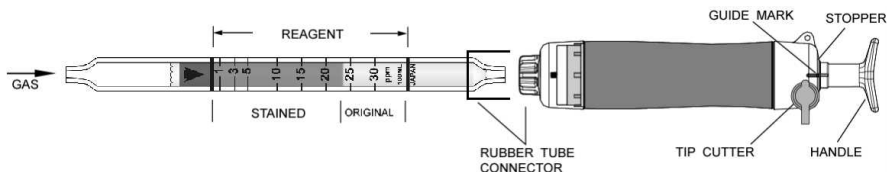

Fig.2
- ② Insert the detector tube into the aspirating pump securely as shown in Fig.2. (Arrow mark shall point to the pump.)
- ③ Align the guide marks on the shaft and stopper of the aspirating pump.
- ④ Pull the pump handle at a full stroke until it locks and wait for 1 minute or until the completion of sampling is confirmed with the flow indicator of the pump. (See descriptions about the flow indicator in the instruction manual of the pump.)
- ⑤ On completion of sampling, read the scale at the maximum point of the stained layer.
- ⑥ When the concentration is over the scale range, a 1/2 pump stroke can be used to determine concentrations of 2-60ppm.